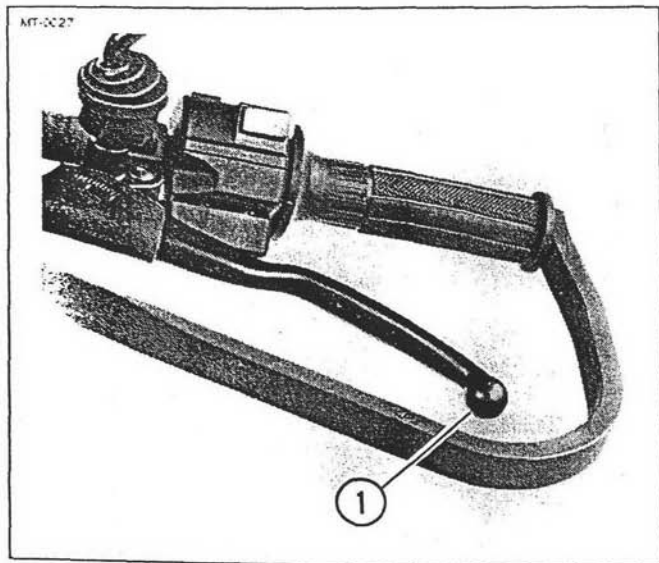

Figure 2-34. Clutch Control Lever Free Play
See Figure 2-34. Check that free play of clutch control lever (1) is 3-5 mm (0.12-0.20 in.) at knob end of lever. If free play is not within this specification, refer to Paragraph 5-8 and adjust.